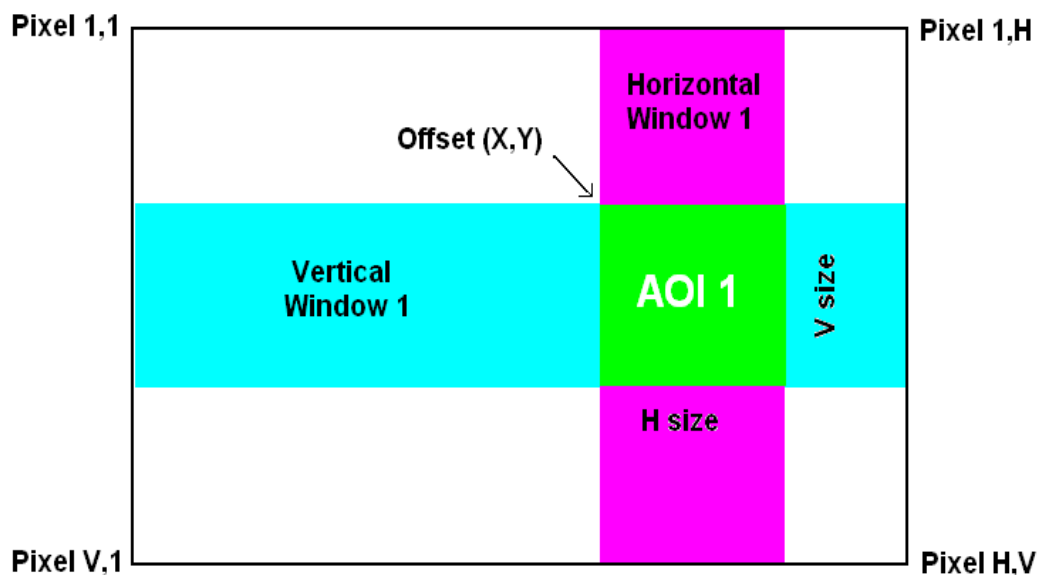

Figure 2.7 – Horizontal and vertical window positioning.
For some applications, the user may not need the entire image, but only a portion of it. To accommodate this requirement BOBCAT provides total of 8 (eight) Horizontal and Vertical Areas of Interest (AOI) – one Master, 6 Slave and one Processing. The starting and ending point for each AOI can be set independently in horizontal direction (Horizontal Window) and vertical direction (Vertical Window), by setting the window (H & V) offset and (H & V) size – Figure 2.7. The minimum window size is one pixel/line for single mode and two pixels/lines for dual mode. The maximum horizontal window size (H) and the vertical window size (V) are determined by image full resolution as shown in Table 2.1, and the selected size of LVAL and FVAL.